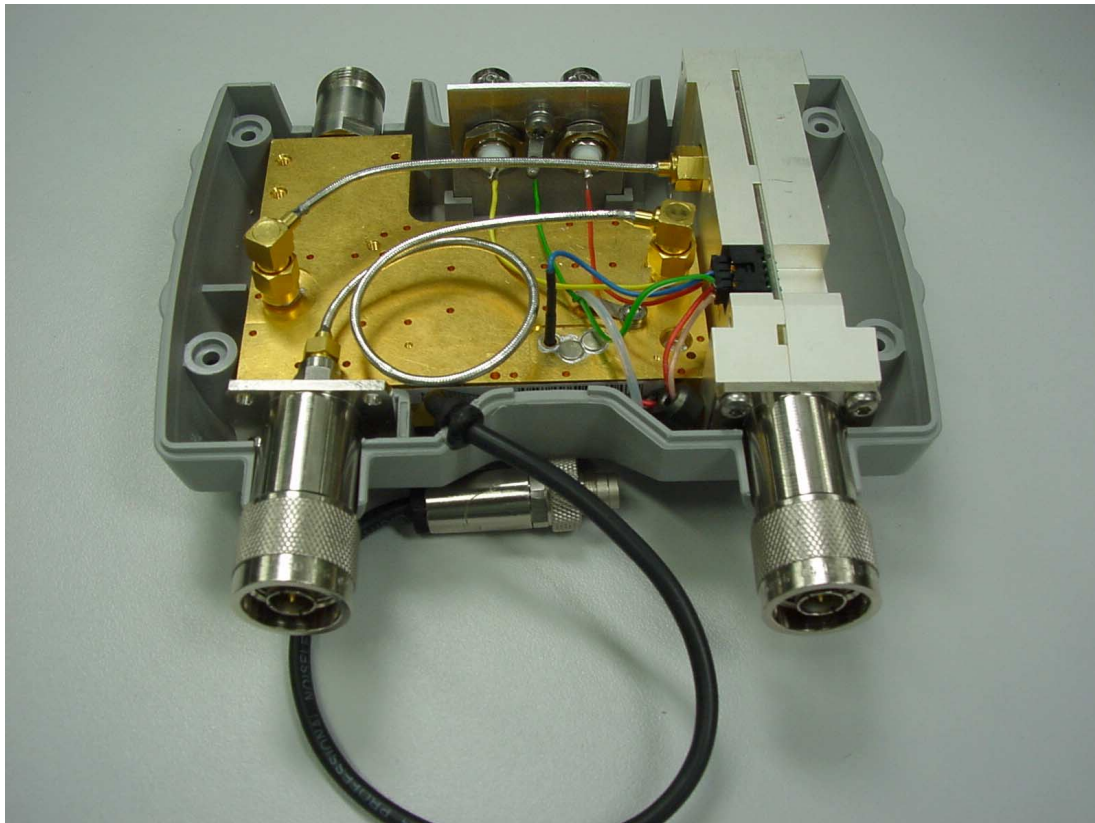

Fig. 3-3 Location of the power cable assembly and the coax cable assemblies in the rear cover.
- Bend the coax assy A as shown in Fig. 3-3
- Connect coax assy B (item 05) as in Fig. 3-3 using a torque wrench